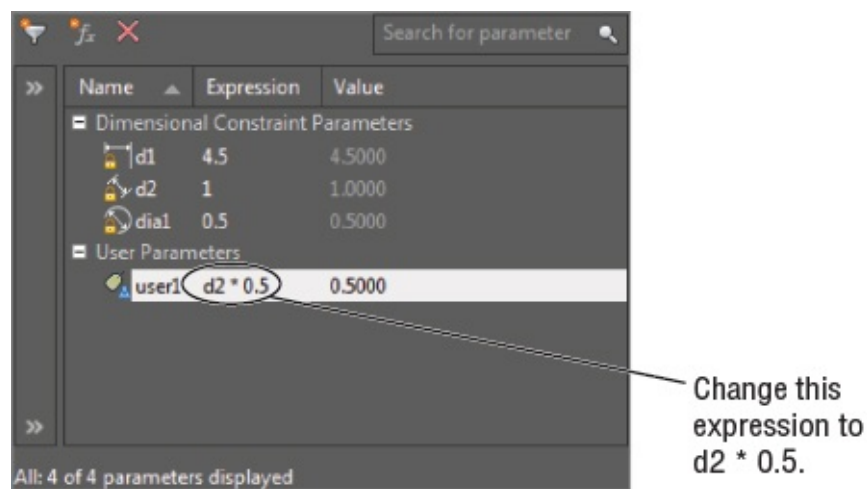

FIGURE 16.18 Adding an expression to the user1 parameter
3. Double-click in the Expression column for the user1 parameter (see Figure 16.18).
4. With the user1 expression value highlighted, type **d2 * 0.5**. You will see your entry replace the expression value (see Figure 16.18). This expression is saying, “Give the user1 variable the value of half the d2 constraint.” Remember that the d2 constraint is the one given to the arc.